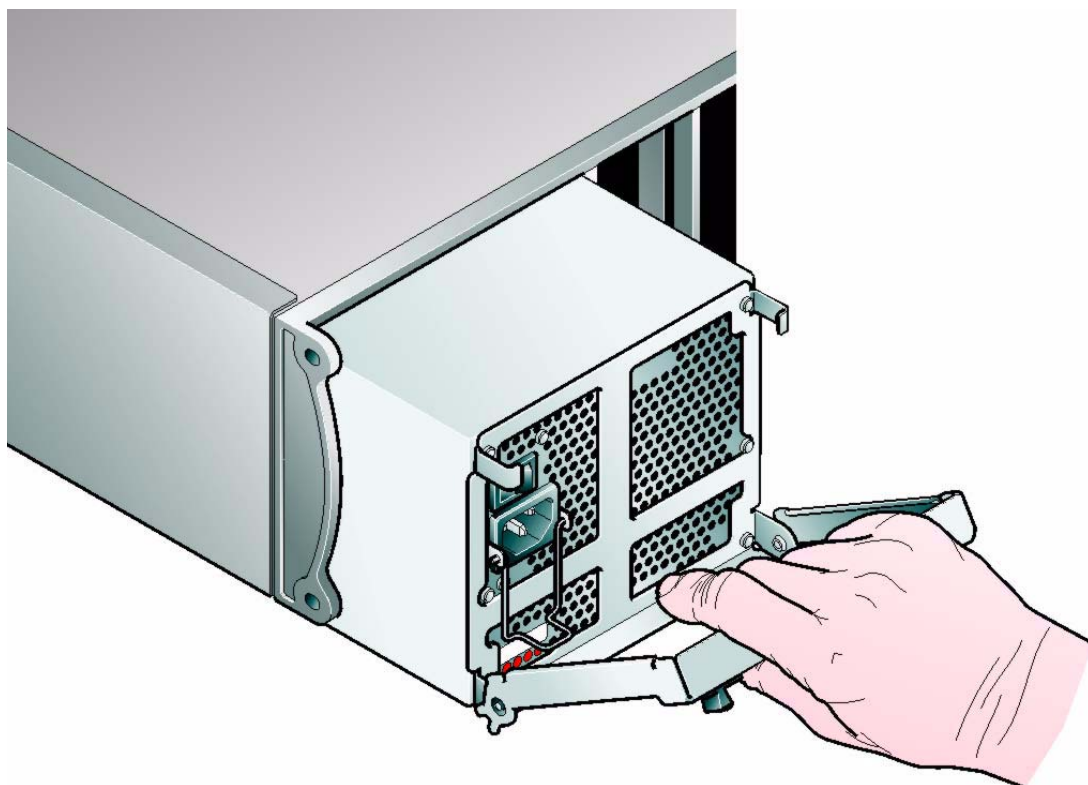

Figure 4-3 Removing/Inserting an AC Power Supply/Cooling Module (3)
- 4 Grip the handle and withdraw the PSU (Figure 4-3).